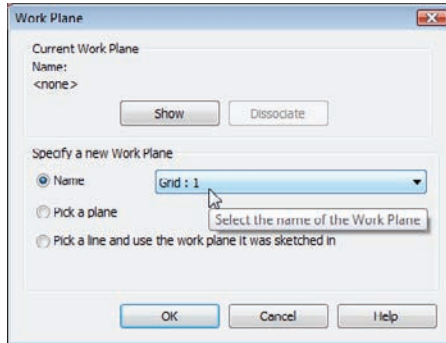

FIGURE 8.45 Specifying Grid : 1 as the work plane for the bracing
7. After you select the Brace button, Revit displays a dialog box asking you to specify a work plane. In the Name drop-down list, select Grid : 1, as shown in Figure 8.45, and then click OK.